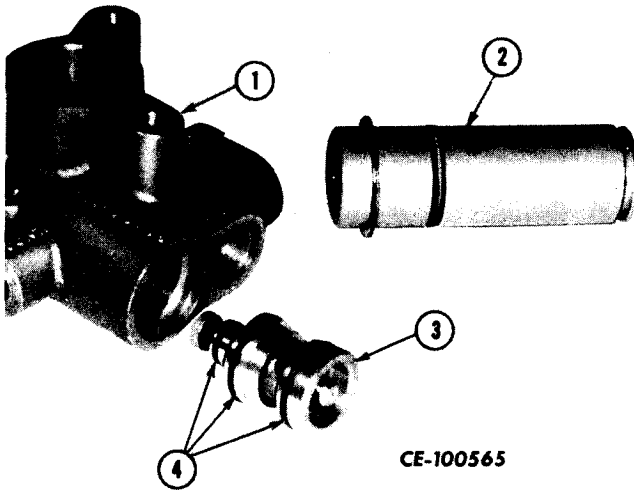

Figure 13-32
Push plunger (2, Fig. 13-32) down through section (1) to remove. Remove and discard seal ring from plunger. Tap section sharply on wooden block to pop valve (3) out of section. Discard valve "O" rings (4).